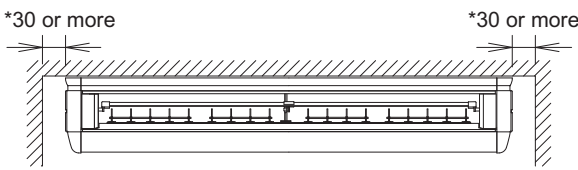
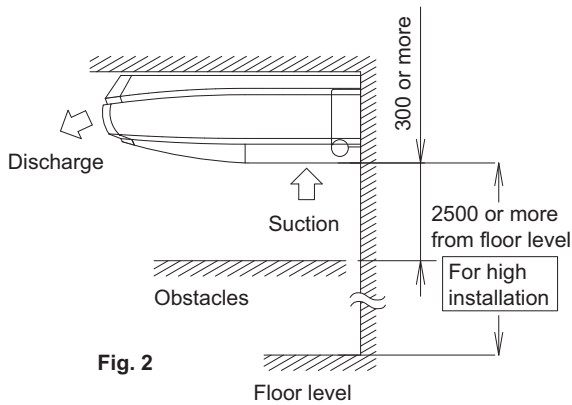

Fig. 1
Fig. 2
- (1) Select the installation location that meets the following conditions and get approval of the customer.
- Where a space sufficient for installation and service can be ensured. (Refer to Fig. 1 and Fig. 2)
- Use the graph or table to determine the minimum floor area. See figure 1 on the inside of the front cover.